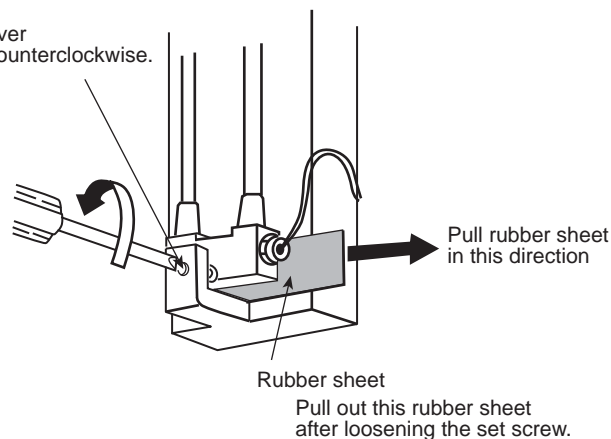

Figure 3.7 How to Remove the Rubber Sheet
- (d) Pull out the rubber sheet avoiding applying force to the vibrator (refer to Figure 3.7).